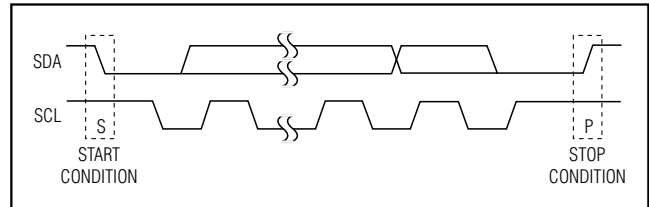

Figure 2. START and STOP Conditions
Each transmission consists of a START condition sent by a master, followed by the MAX7319's 7-bit slave address plus R/w bit, then 1 or more data bytes, and finally a STOP condition (Figure 2).
Both SCL and SDA remain high when the interface is not busy. A master signals the beginning of a transmission with a START (S) condition by transitioning SDA from high to low while SCL is high. When the master has finished communicating with the slave, the master issues a STOP (P) condition by transitioning SDA from low to high while SCL is high. The bus is then free for another transmission (Figure 2).